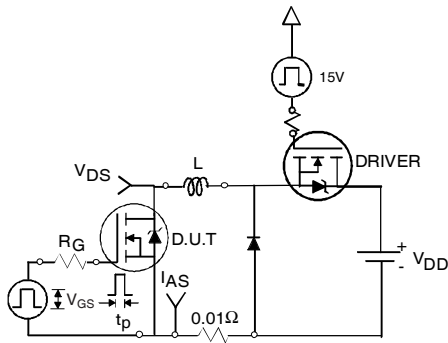

Fig 17a. Unclamped Inductive Test Circuit
- ③ Pulse width $\leq 1.0ms$; duty cycle $\leq 2\%$.
- ④ $C_{oss \text{ eff.}}$ is a fixed capacitance that gives the same charging time as C_{oss} while V_{DS} is rising from 0 to 80% V_{DSS} .
- ⑤ Limited by T_{Jmax} , see Fig.17a, 17b, 14, 15 for typical repetitive avalanche performance.
- ⑥ This value determined from sample failure population. 100% tested to this value in production.
- ⑦ This is only applied to TO-220AB package.
- ⑧ R_θ is measured at T_J approximately 90°C
3. Equation below based on circuit and waveforms shown in Figures 17a, 17b.